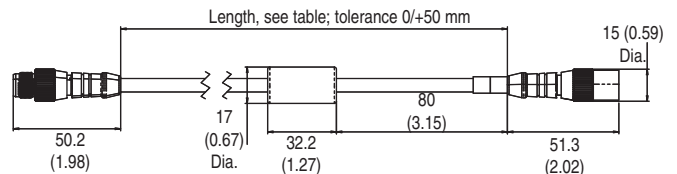

Figure 13: M12 connector (male)/M12 8-pin connector (female) [shielded cable], extension connection cable or to use between light curtain cascades.
8. Test the protective function of the GuardShield Micro 400 light curtain by using the test rod, according to Figure 13. The insertion of this rod into the protective field at any position has to lead to a protective field interruption (illumination of the red LED in the GuardShield Micro 400).